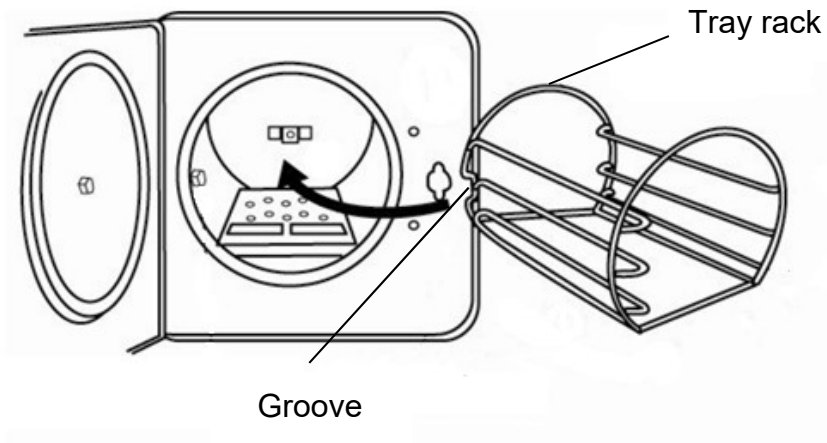

Figure 13
C. Install the tray rack (standard accessory), as shown in Figure 13.
⚠ CAUTION: The tray rack should be installed as shown in Figure 13 below. The groove of the tray rack will pass through the bushing in the chamber.